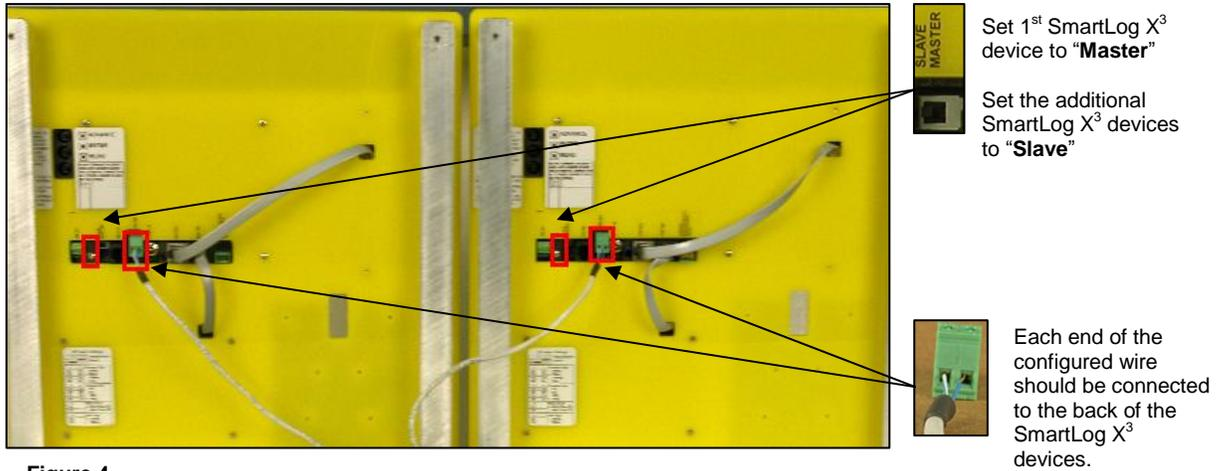

Figure 4
Once both ends of the wire are assembled, insert them back into of each the SmartLog X³ devices. (See Figure 4)
6. Set the RS-485 switch on the back of the SmartLog X³ that is hardwired to the local PC to "Master." (See Figure 4)